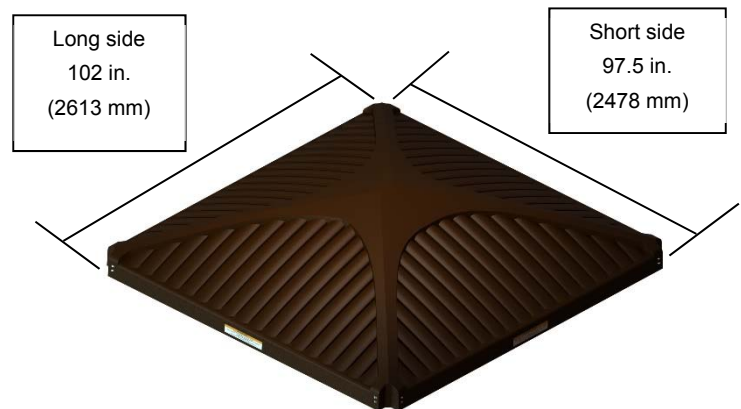

Figure 42
- 2) Place the top section of the COVANA cover on the hot tub and center it as best as possible. Measure your hot tub's dimensions and put the long side of the COVANA cover on the longest side of the hot tub. (Figure 42) If a LED light kit is included, the light switch should be placed on the entry side of the hot tub.
**Note:** The cover is rectangular. (Figure 42) The standard model will need the motor frame to be on the short side of the COVANA cover, whereas the long-side will need the motor frame on the long side of the COVANA cover.